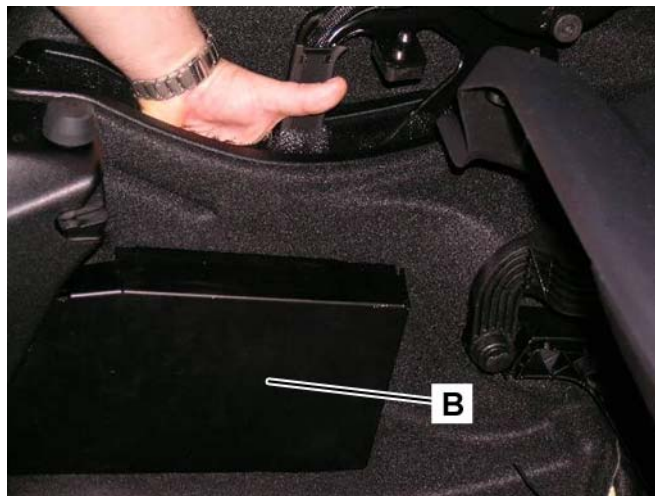

Figure 24
8. Remove the paper and press the trunk paneling from behind on the SDARS bracket assembly (B, Figure 24)